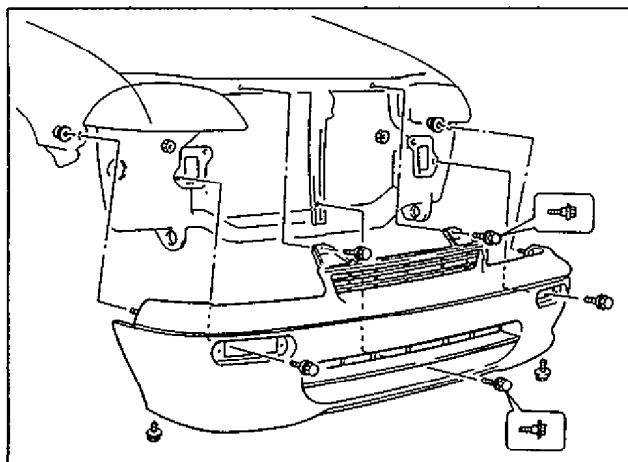

Fig. 2-2
- 3) Remove bumper fitting bolts and nuts shown in Fig. 2-2.